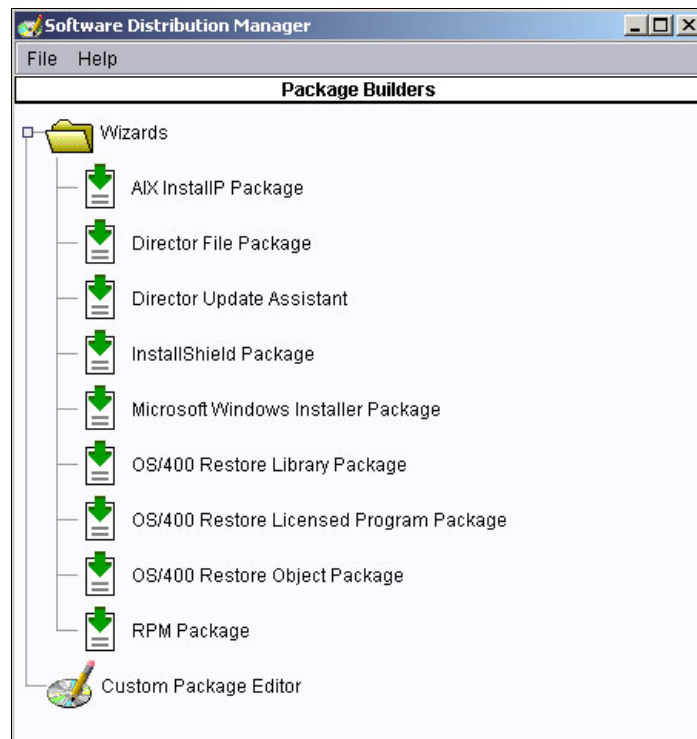

Figure 7-13 Software distribution manager window
3. Select the Software Distribution task, right-click the task, and select **Open**. The Software distribution manager window opens. Expand the Wizards file. See Figure 7-13 for details.
13. Once all the images have been processed, this window will close automatically and will return to the Software Distribution Manager window, Figure 7-13 on page 260. Select **File** → **Close** to close this window and return to the IBM Director console.